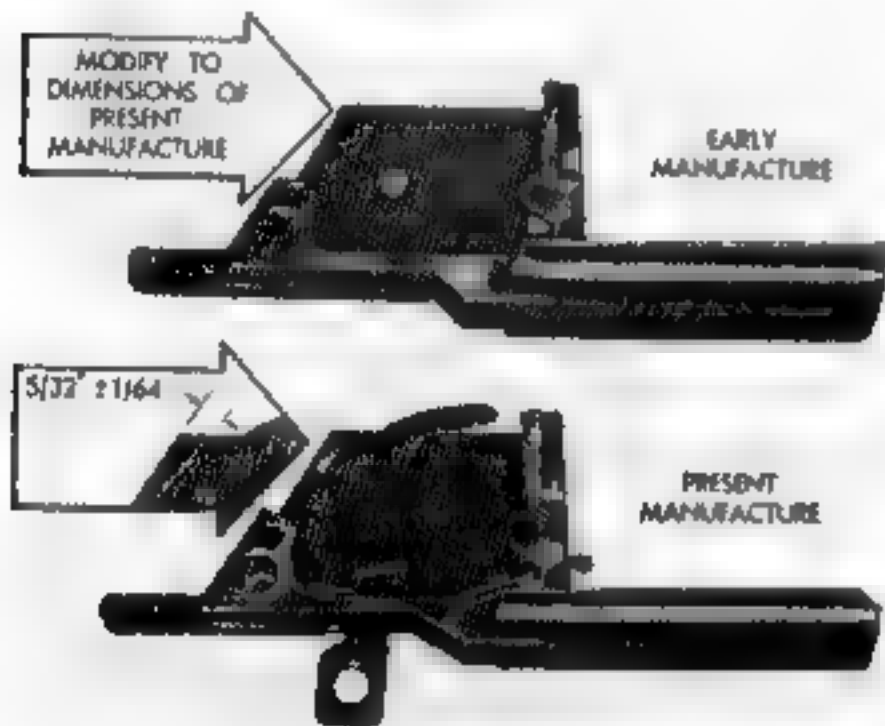

Fig. 152. Modification of trigger housing.
75. Trigger housing: modify the pads on the upper rear corner of the trigger housings of early manufacture to the dimensions of later manufacture, as shown in Fig. 152. This is required to enable assembly of current design safeties.